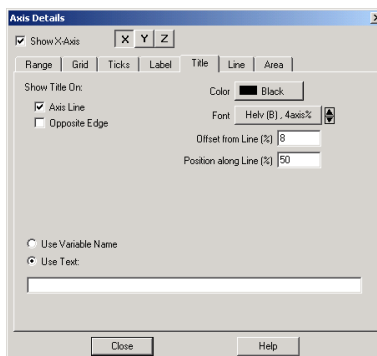

Figure 17-14. The Title page of the Axis Details dialog.
1. From the Axis Details dialog select the Title page, as shown in Figure 17-14.